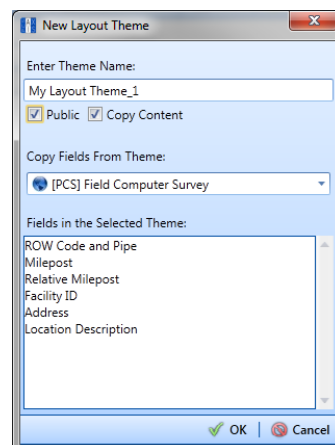

Figure 12-26. New Layout Theme
- 6 Click the **Customize** tab  then the  **Add** button to open the *New Layout Theme* dialog box (Figure 12-26).